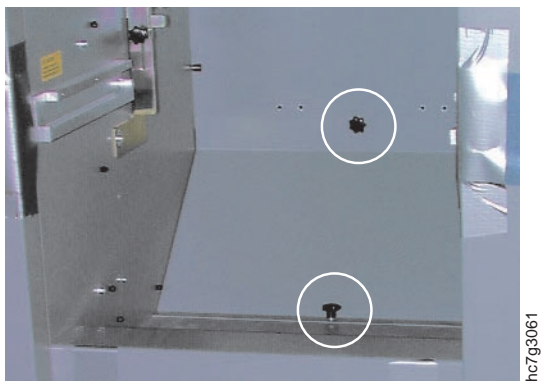

Figure 302. Removing the Two Black Screws
3. Find the cover at the back of the paper roll cavity and remove the cover by unscrewing the two black screws, as shown in Figure 302.